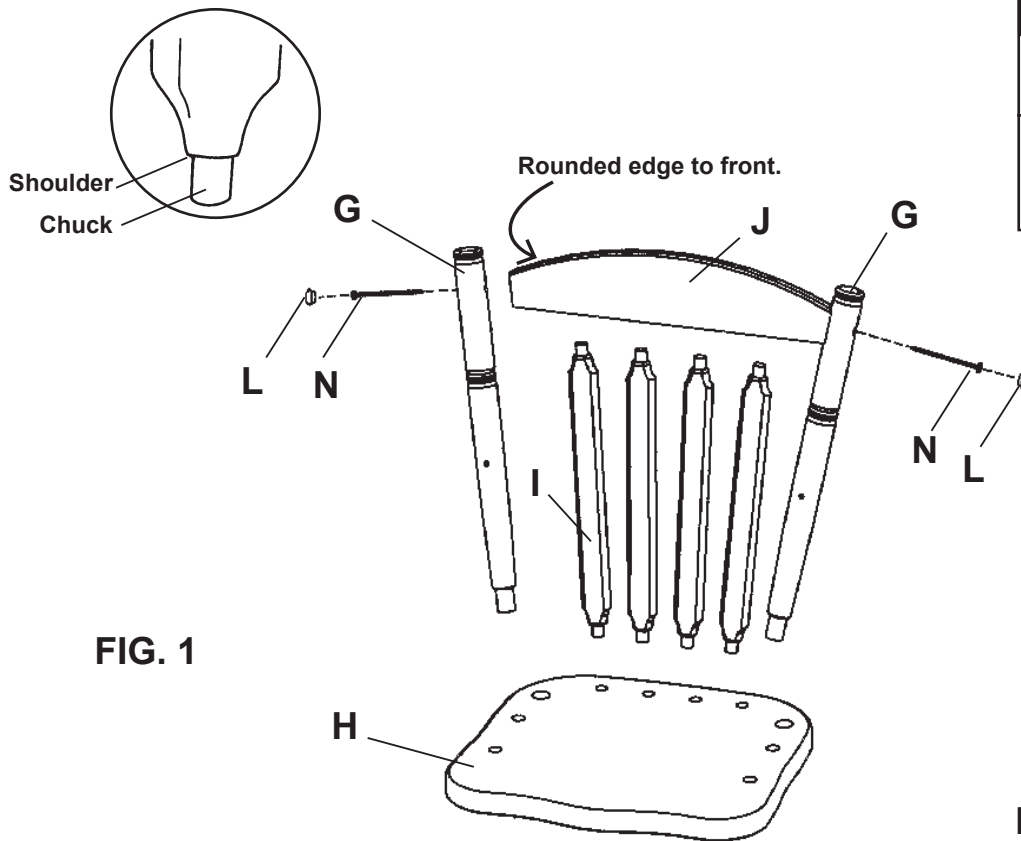

FIG. 1
- 1) Spread glue in the four center holes in the top of the Seat (H). Insert the larger chucked ends of the four Back Spindles (I) as shown in FIGURE 1. **Proceed immediately to Step 2 – DO NOT STOP.**
- 2) Spread a thin coat of glue about 1½" long centered in the grooves on both ends of the Back (J). Put the Back and the Backposts(G) together as shown in FIGURE 1. Insert a #8 x 2¼" Brass Pan Head Screw (N) through the hole in the backpost into the predrilled hole in the back and fasten securely. Quickly wipe off any glue that may be squeezed out. Spread glue thinly but evenly in the four holes in the bottom of the Back (J), (too much glue and it will drip out) and in the two corner holes in the seat. Insert the Backposts into these holes while working the Back Spindles (I) into holes in the back one at a time. It may be necessary to use a rubber mallet or padded hammer to tap these pieces in place. It is important that the shoulders of the backposts and spindles are in contact with the seat.